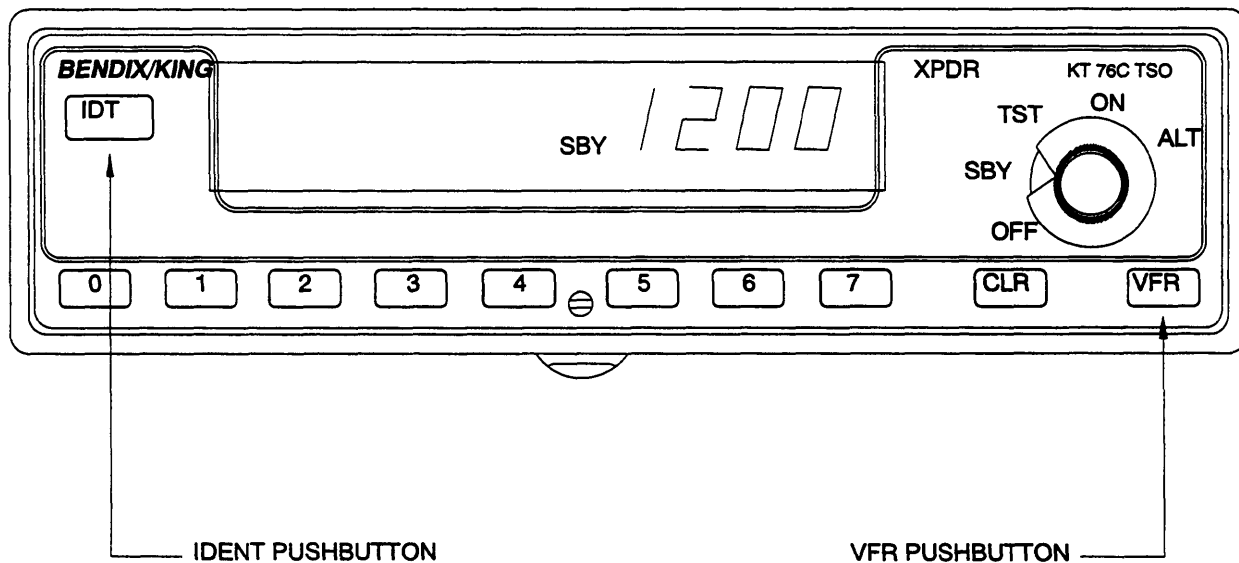

FIGURE 3-7 VFR
C. VFR (see Figure 3-7)
Momentarily depressing the "VFR" pushbutton causes the pre-programmed VFR code to supersede whatever code was previously entered. The ID code will be immediately displayed and transmitted 4 to 6 seconds later. This ID code will be stored as the last active ID code just as if it were entered from the front panel (see Figure 3-7).